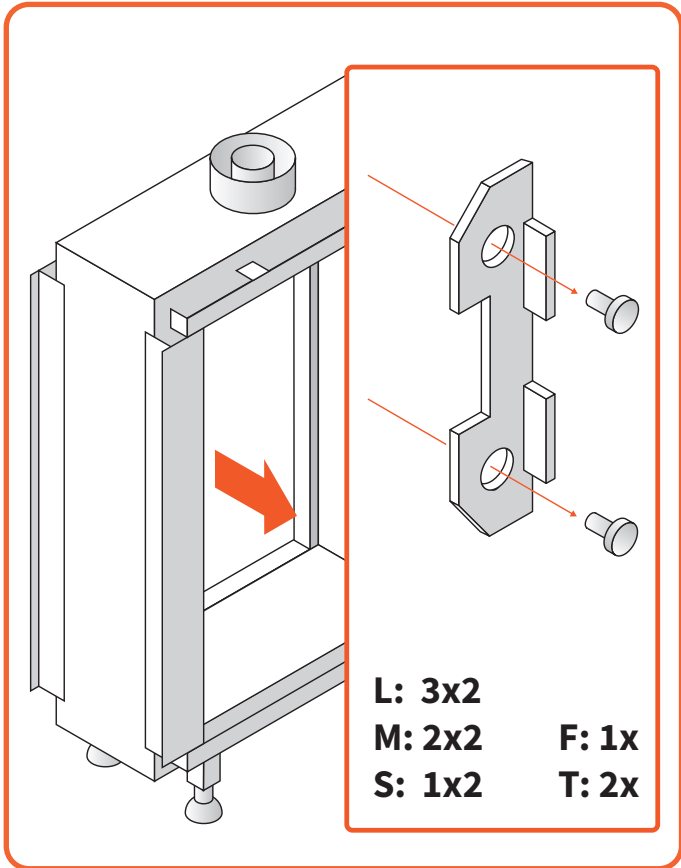

Figure 11.10 - Remove clamps
- Secondly remove the 6 glass clamps by unscrewing the two screws that hold each clamp. (See **Figure 11.10**)